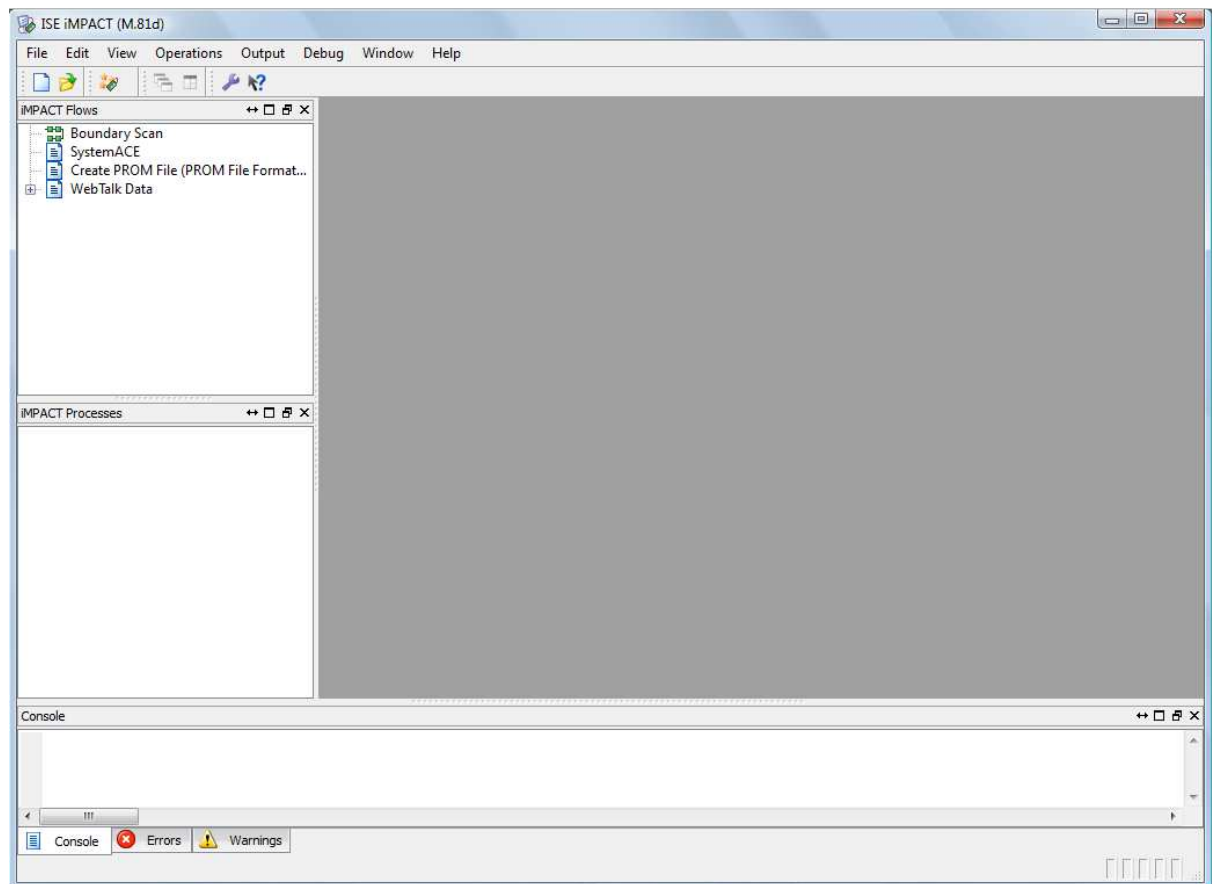

Figure 6.49: The initial iMPACT window.
4. Double-click on **Manage Configuration Project (iMPACT)**. The iMPACT window should appear as shown in Figure 6.49.